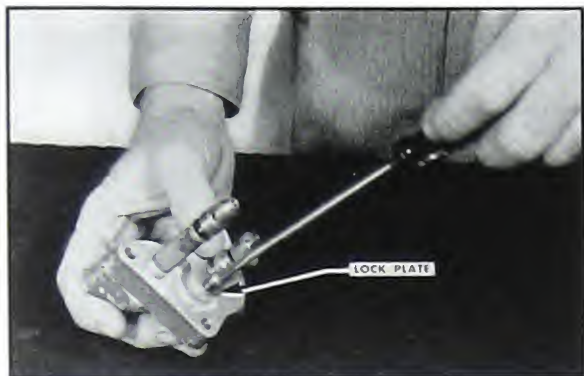

Fig. 5-261. Lock trip assembly
8. Screw the trip assembly into the housing and tighten securely. Lock assembly with the lock plate and screw. Fig. 5-261.